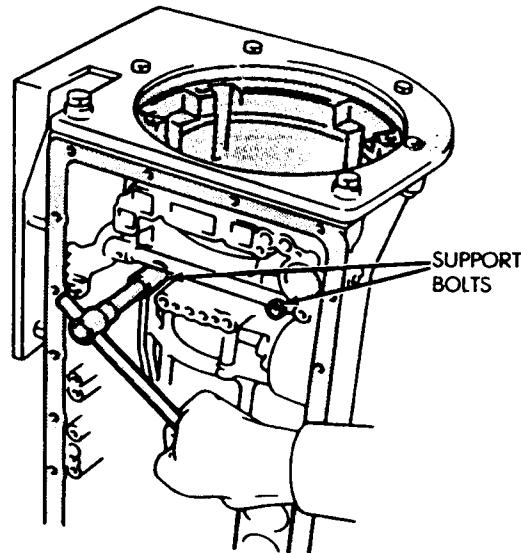

Fig. 24 Remove Overdrive Support Bolts
(32) Remove overdrive support bolts (Fig. 24).